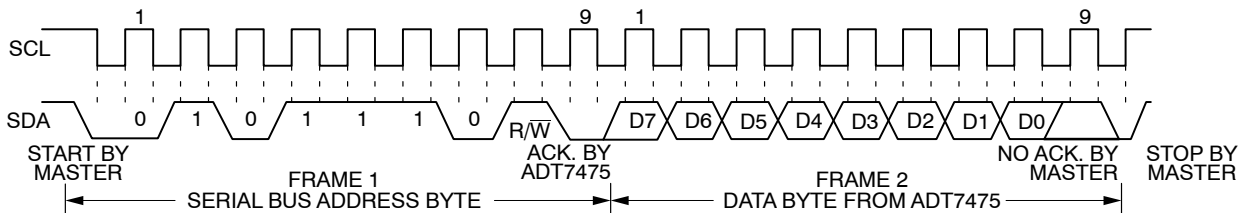

Figure 15. Reading Data from a Previously Selected Register
A read operation is then performed consisting of the serial bus address; the R/\overline{W} bit set to 1, followed by the data byte read from the data register see Figure 15.
2. If the address pointer register is known to be already at the desired address, data can be read from the corresponding data register without first writing to the address pointer register see Figure 15.